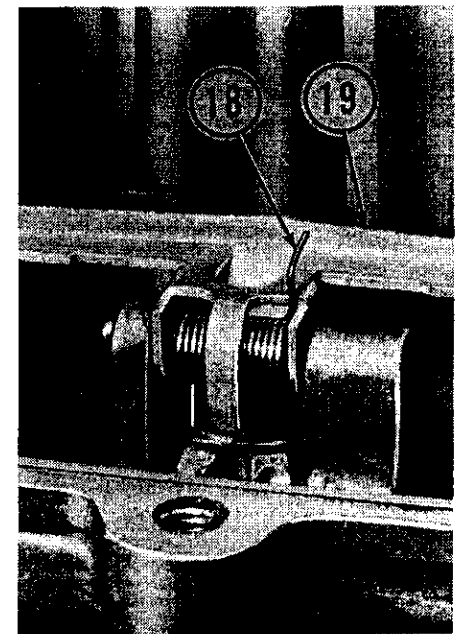

Fig. 103—View showing correct installation of float spring (18); float lever is (19).
be installed in new cover. Spring (18) is installed to assist float lift; refer to Fig. 103 for spring installation. Later production carburetors include these changes.